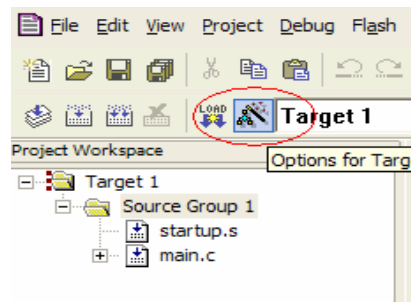

Figure 5
(1) Choose the “Options of Target” as figure 5.